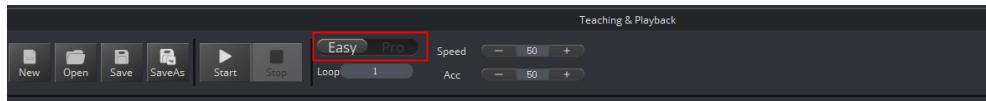

Figure 5.211 Switch advanced function
**Step 1** Click **Easy** icon on the **Teaching&Playback** page, as shown in Figure 5.211.